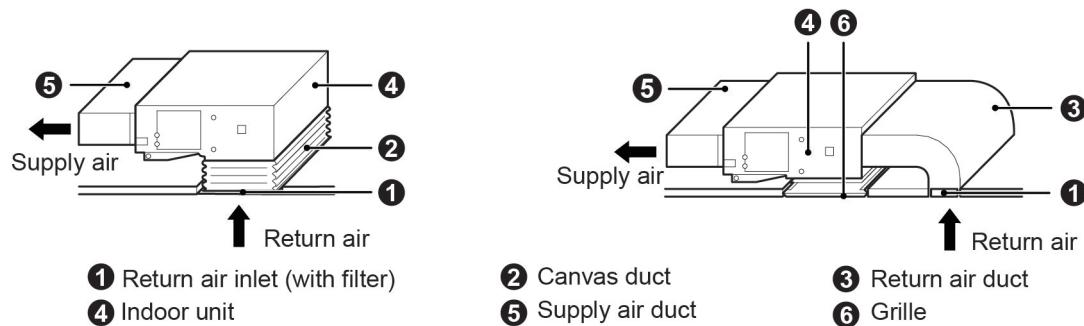

Fig 4.24
- (5) Select the appropriate installation way based on actual construction and maintenance needs, as shown in Fig 4.24